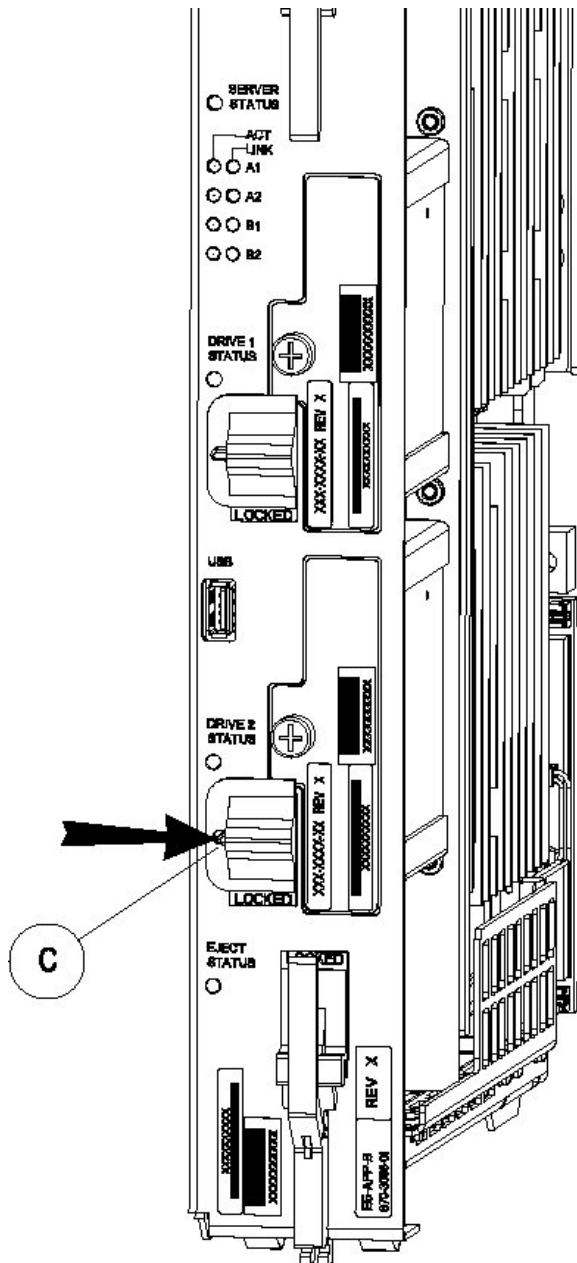

Figure 33: Drive Module Released
Move the switch lock release (C) to the "released" position by pressing in the direction indicated. Refer to Figure 33: Drive Module Released.